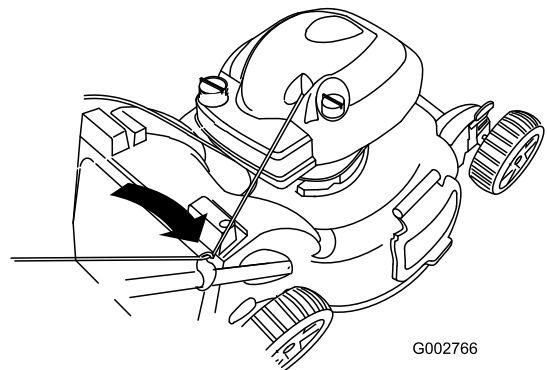

Figure 27
2. Route the starter rope around the lower rope guide (Figure 27).